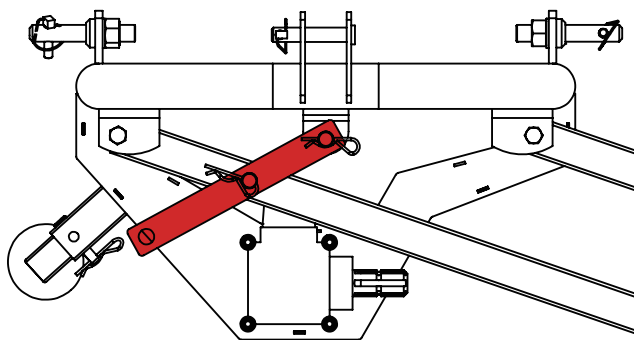

Figure 7
7. When the machine is used laterally, the plate should be placed in the position shown in Figure 7 and secured with the Type B Pin M3.5×75.